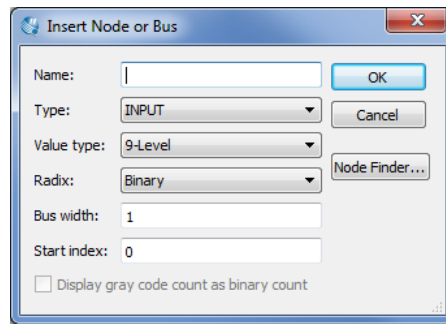
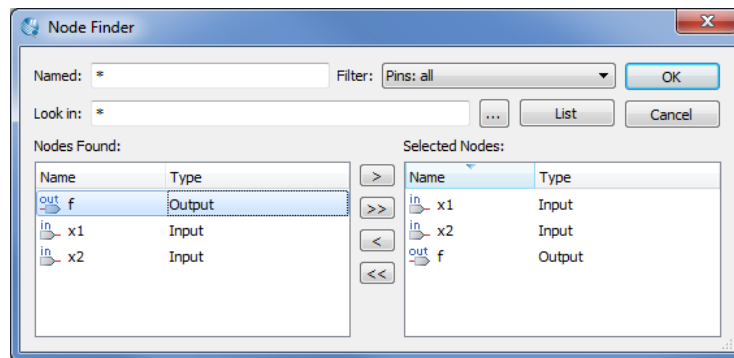
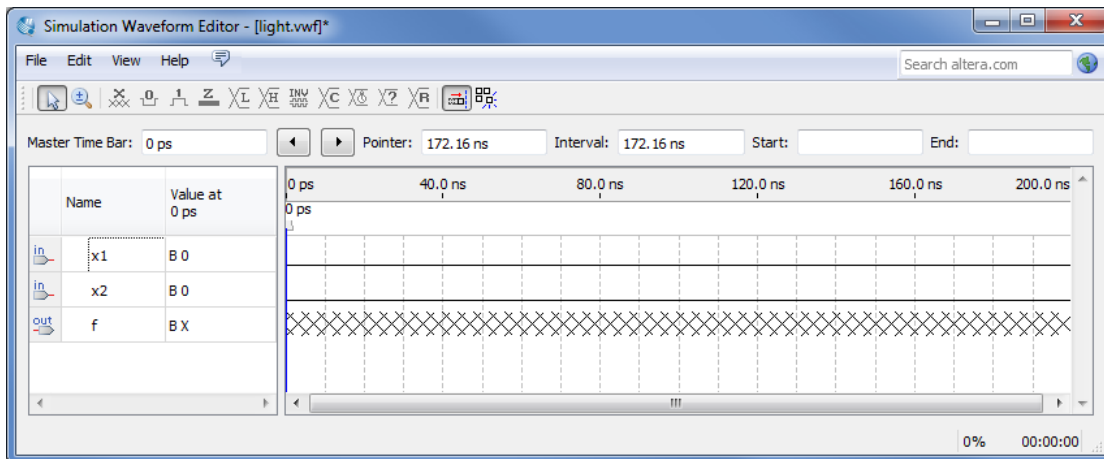

Figure 33. The Insert Node or Bus dialogue.
Figure 34. Selecting nodes to insert into the Waveform Editor.
Figure 35. The nodes needed for simulation.
6. Next, we want to include the input and output nodes of the circuit to be simulated. Click **Edit > Insert > Insert Node or Bus** to open the window in Figure 33. It is possible to type the name of a signal (pin) into the Name box, or use the Node Finder to search your project for the signals. Click on the button labeled **Node Finder** to open the window in Figure 34. The Node Finder utility has a filter used to indicate what type of nodes are to be found. Since we are interested in input and output pins, set the filter to **Pins: all**. Click the **List** button to find the input and output nodes as indicated on the left side of the figure.
Click on the $x1$ signal in the Nodes Found box in Figure 34, and then click the > sign to add it to the Selected Nodes box on the right side of the figure. Do the same for $x2$ and f . Click OK to close the Node Finder window, and then click OK in the window of Figure 33. This leaves a fully displayed Waveform Editor window, as shown in Figure 35. If you did not select the nodes in the same order as displayed in Figure 35, it is possible to rearrange them. To move a waveform up or down in the Waveform Editor window, click within the node's row (i.e. on its name, icon, or value) and release the mouse button. The waveform is now highlighted to show the selection. Click again on the waveform and drag it up or down in the Waveform Editor.